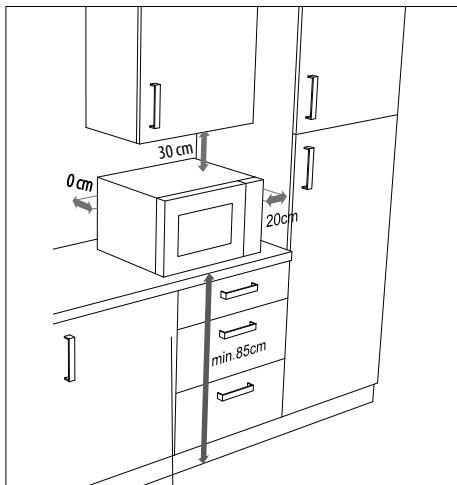

Fig. 4 – Appliance clearance
- ▶ The distances shown must be maintained to ensure adequate ventilation (see Fig. 4). The spacer at the back of the appliance must touch the wall. It ensures that the correct clearance is maintained when positioning the microwave.